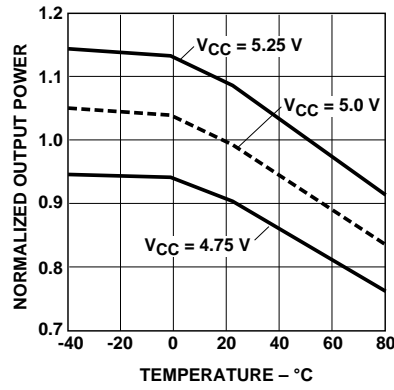

Figure 4. Typical Normalized Optical Power vs. Temperature (in Recommended Drive Circuit).
- Minimum and maximum values for P_T over temperature are based on a fixed drive current. The recommended drive circuit has temperature compensation which reduces the variation in P_T over temperature; refer to Figures 4 and 6.